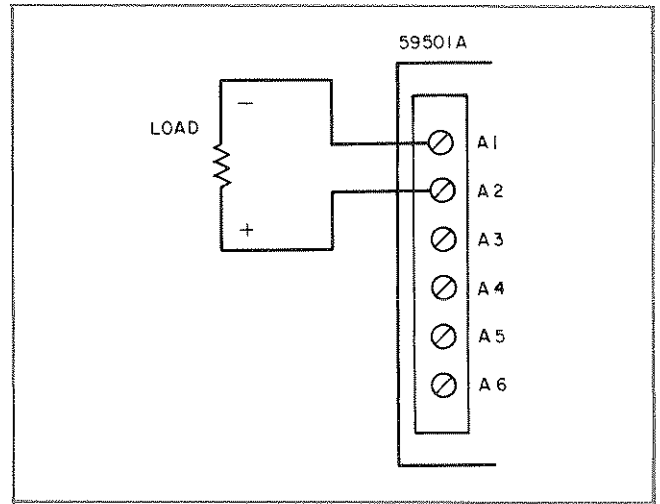

Figure 2. Connecting the 59501A as a Low Level Voltage Source.
- Wire load to 59501A as illustrated in Figure 2.